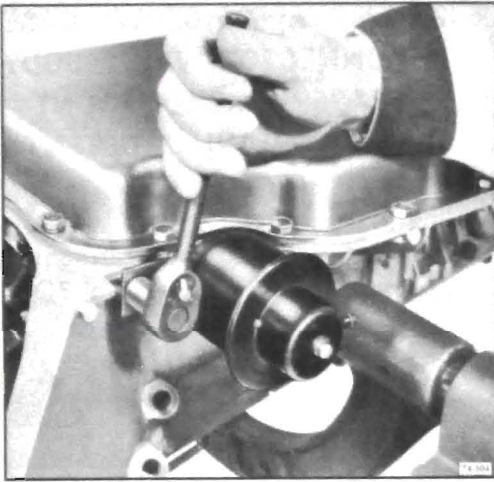

Figure 76-505
4. Remove modulator assembly attaching bolt and retainer. See Figure 76-505.